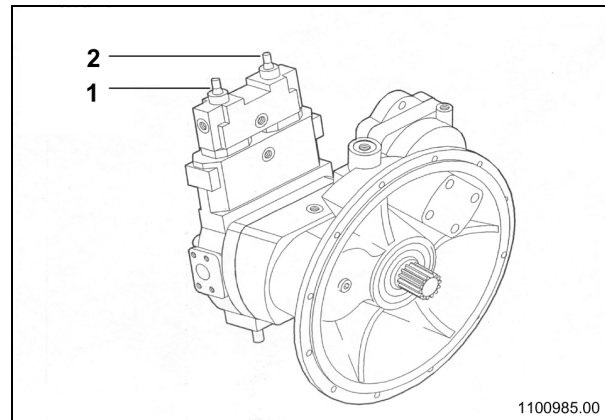

Fig. 2
- Initiate the boom raising function slowly until the demand pressure is 10 bars. The high pressure of pump 1 must be between 120 bars and 200 bars, adjust if necessary with the setscrew (1, Fig. 2) of pump 1.
- Initiate the boom extending function slowly until the demand pressure is 10 bars. The high pressure of pump 2 must be between 120 bars and 200 bars, adjust, if necessary, with setscrew (2, Fig. 2) of pump 2.